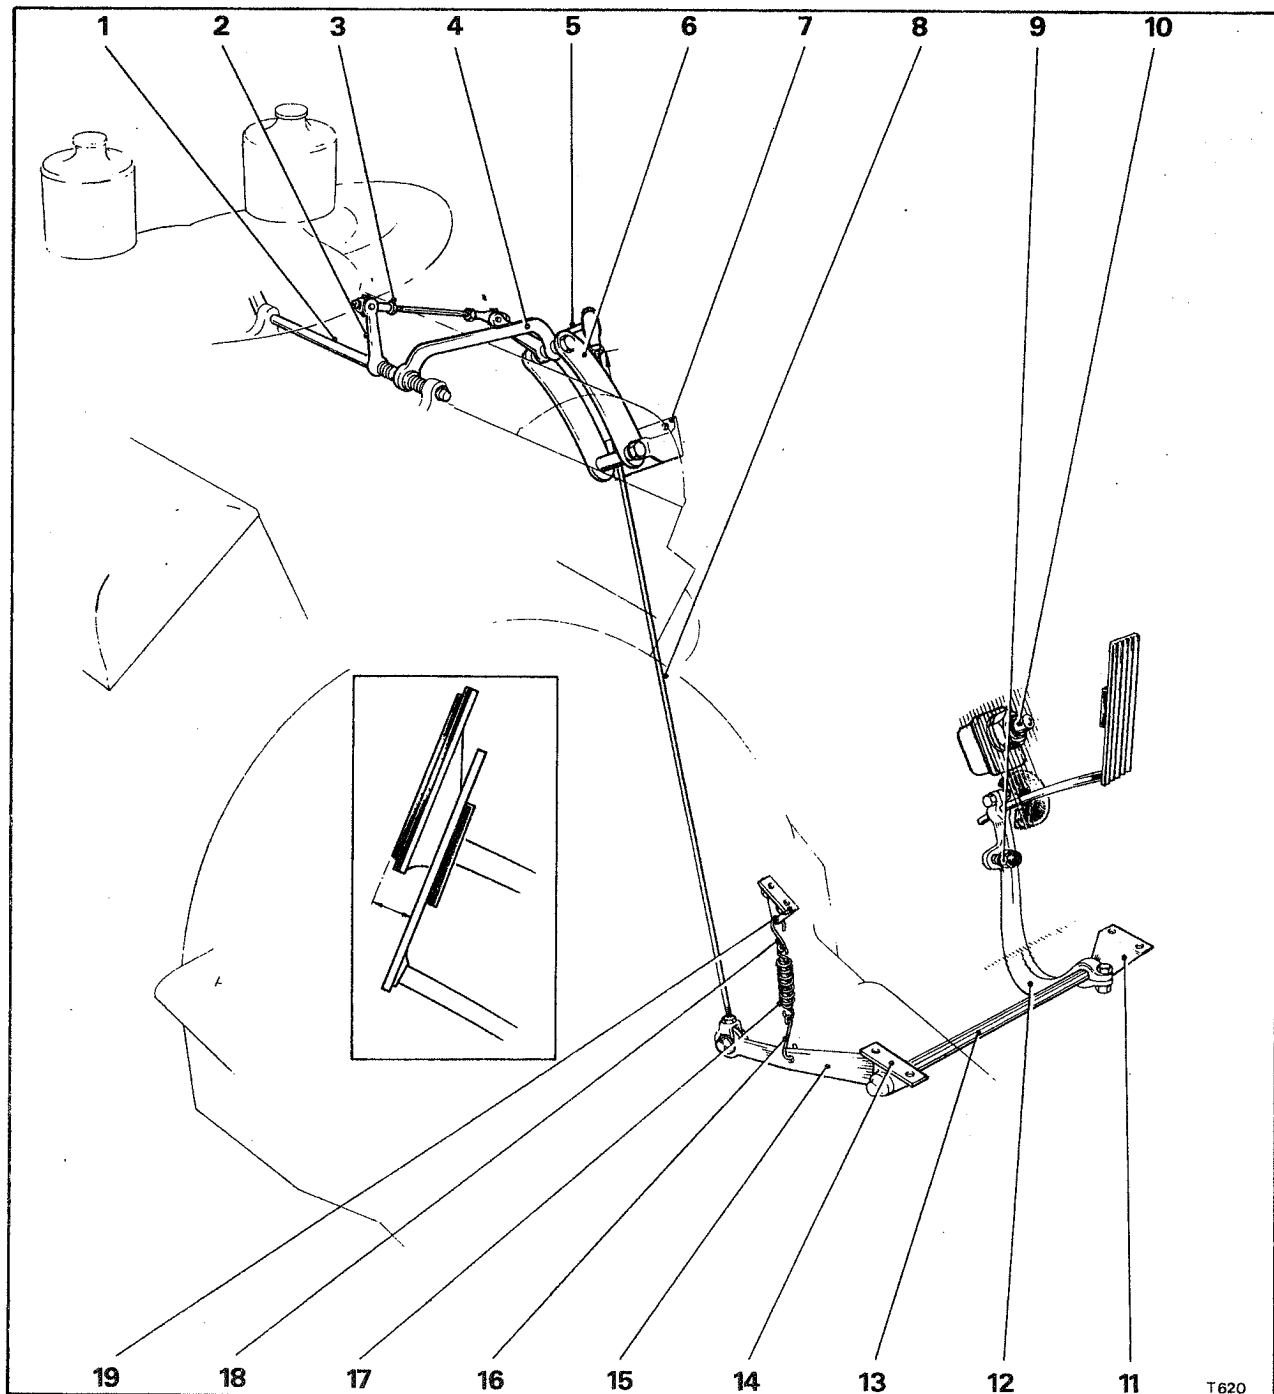

Fig. K98 S.U. carburettor accelerator pedal and isolator mechanism (right-hand drive cars)
11. Ensure that the clearance between the cross link guide (item 9) and the cross link is between 1,27 mm. and 1,78 mm. (0.050 in. and 0.070 in.). If necessary bend the guide to obtain this clearance.
13. Fit the idle stop screw (item 8) and lock plate. Adjust until the screw just contacts the stop bracket (item 9) ensuring that the throttle butterflies are in the closed throttle position.
15. Connect one end of the drive link (item 12) to the 'B' bank throttle lever and the opposite end to the manifold shaft lever (item 14).
17. With the throttles in the closed position check that the 'A' bank control shaft to control rod lever (item 13) on the rear of the manifold shaft lever is in line with the front manifold shaft lever (item 14). Tighten the securing bolts on both levers.
**Accelerator pedal and isolator mechanism - To set Right-hand drive cars (see Fig. K98)**
1. Assemble the isolator rod (item 3) to give a distance of between 5,75 cm. and 5,84 cm. (2.265 in. and 2.300 in.) between the inner faces of the lock-nuts.
2. Set the accelerator pedal off-stop screw (item 9) to between 2,54 cm. and 2,61 cm. (1.0 in. and 1.03 in.).
3. Fit the right-hand mounting bracket (item 11) for the accelerator cross-shaft (item 13).
4. Insert the cross-shaft (item 13) through the longeron. Fit the accelerator pedal lever (item 12) and insert the cross-shaft into the bush in the right-hand bracket (item 11).
5. Mount the control operating lever (item 15) on the opposite end of the cross-shaft (item 13), but do not fit the pinch bolt.
6. Fit the left-hand mounting bracket (item 14) onto